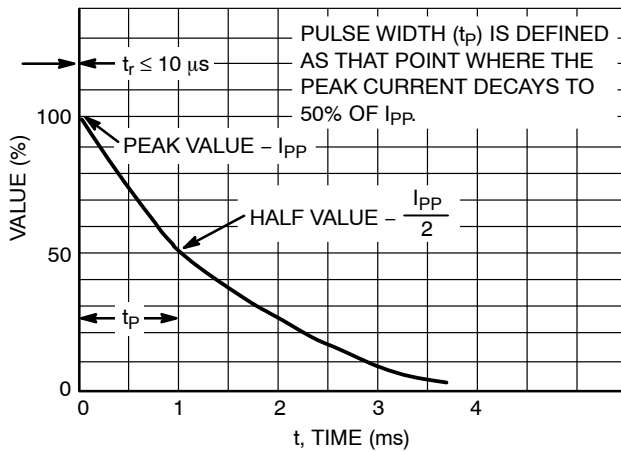
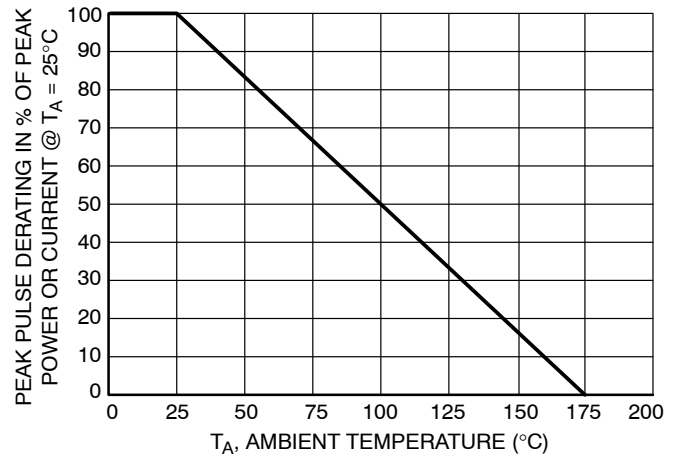

Figure 6. Pulse Waveform
Figure 7. Pulse Derating Curve
1. Non-repetitive current pulse per Figure 6 and derate above  $T_A = 25^\circ\text{C}$  per Figure 7.
5. Surge current waveform per Figure 6 and derate per Figure 7